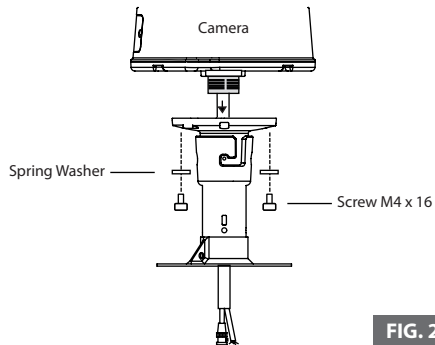

FIG. 2
- Pass the cables of the camera through the inside of Pole Stand and connect the camera to the Pole Stand with pieces of M4 x 16 screws. (FIG. 2)